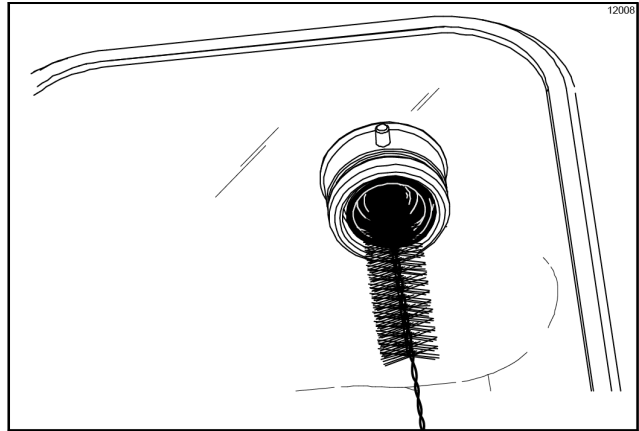

Figure 6-65
5. Using the black brush, clean the drive hub opening in the rear wall of the mix hopper. (See Figure 6-65.)